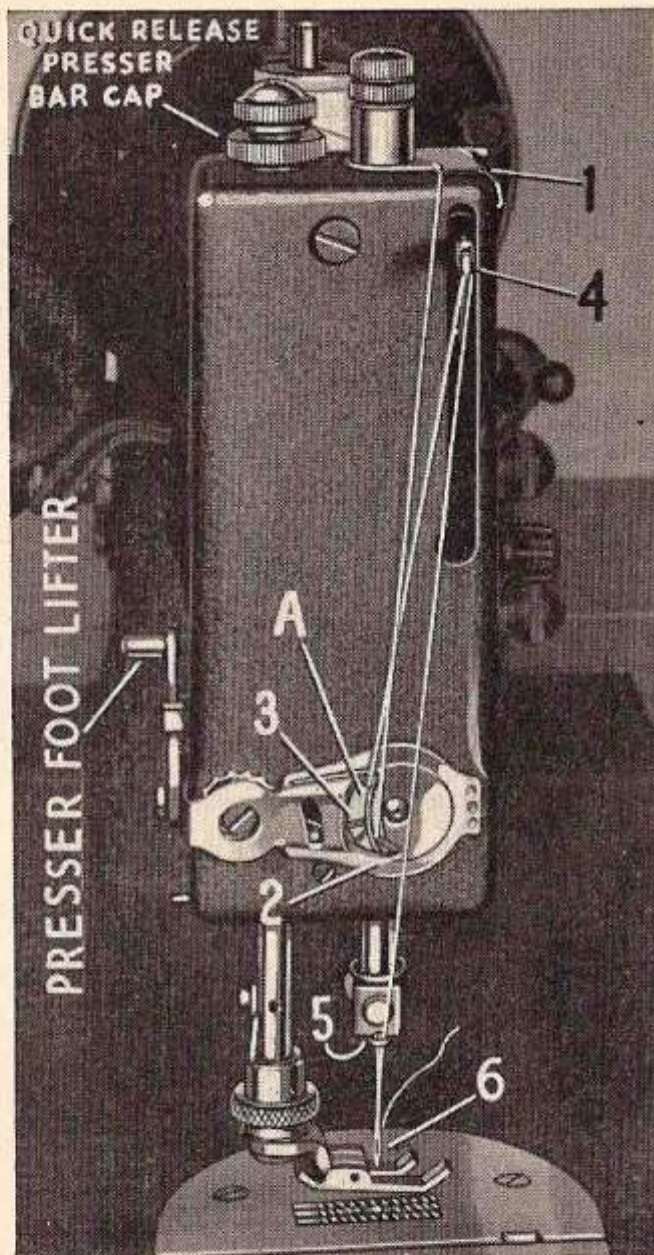

FIGURE 7
See Fig. 7. Raise the presser foot by raising the presser foot lifter. Then turn disc wheel by hand until the takeup (4) is at its highest point. Place spool of thread on the spool pin located in the center of machine arm, and throughout entire threading operation maintain a slight tension on the thread with the fingers of the right hand close to the spool.